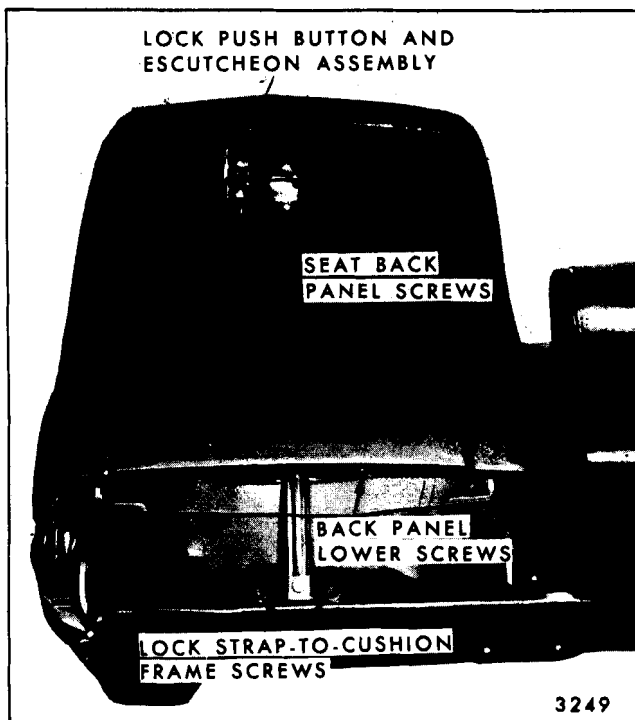

Fig. 14-46-Strato Back Panel Removal
2. Using a flat-bladed tool, carefully snap off seat back lock push button and escutcheon assembly and remove two screws securing seat back panel to lock assembly (Fig. 14-46).
3. Tilt seat back forward and remove three screws securing bottom of seat back panel to seat back frame (Fig. 14-46).